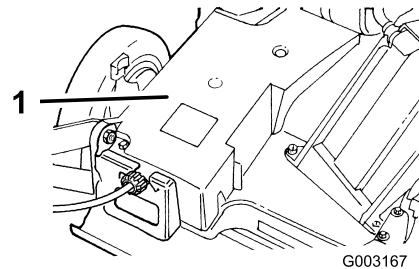

Figure 40
2. Remove the bolts that secure the belt cover (Figure 40) to the machine housing.